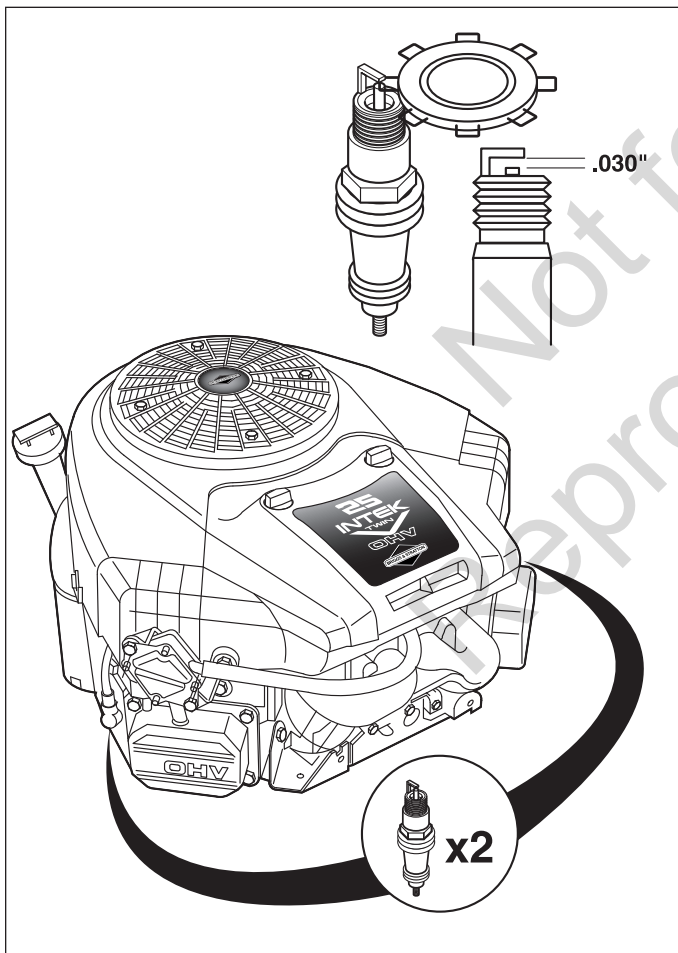

Figure 31. Spark Plug Gapping
2. See Figure 31 or 32. Clean the area around the spark plug.
4. Check the spark plug gap. It should be .030" (see Figure 31 or 32).